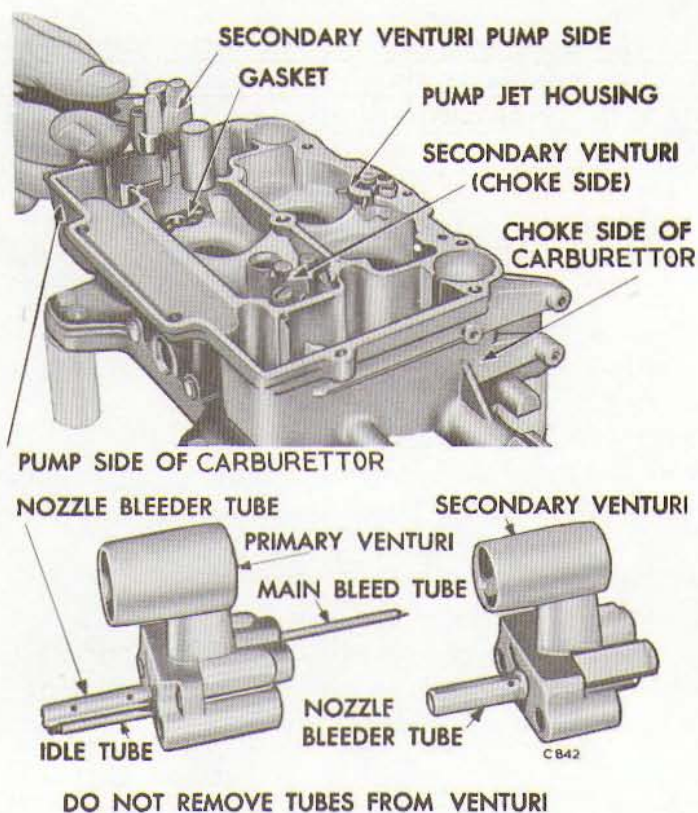

Fig. 13 Removing or Installing Secondary Venturi
- (5) Remove the screws that attach the secondary venturi (choke and pump side) to the main body. Lift the secondary venturi assemblies straight up and away from the body, as shown in Fig.13.